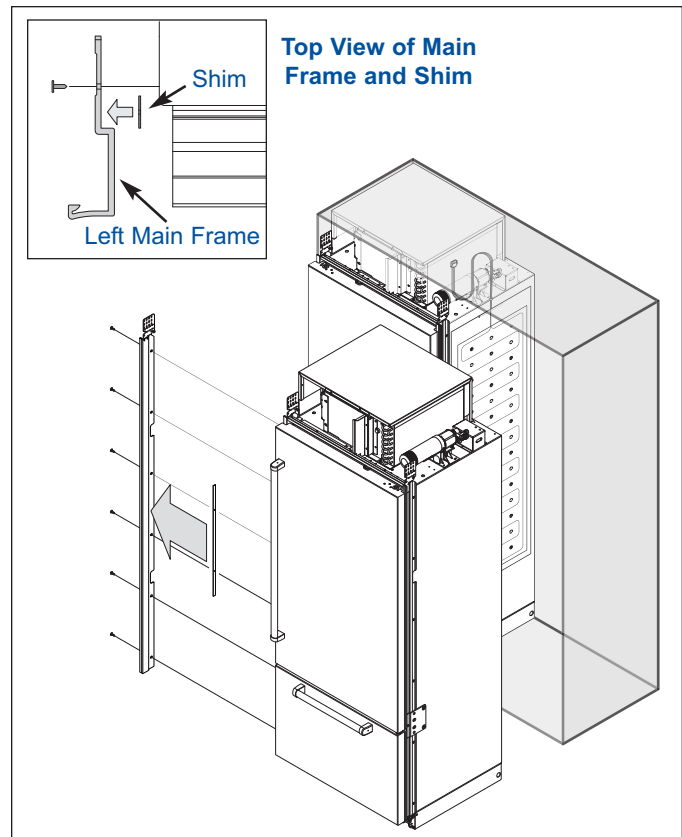

Figure 6. Left Main Frame Off and Shim Application
1. Remove the left side mainframe from the right hand unit (See Figure 6).
3. Align the two (2) holes in the shim parallel with the two (2) middle main frame mounting holes, and affix the shim to the main frame, making sure it is tight to the bend in the main frame, and that the holes are **NOT** concentrically aligned with the mounting holes (See Figure 6).